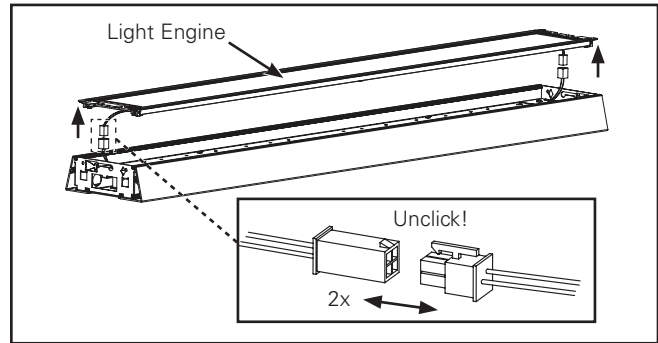
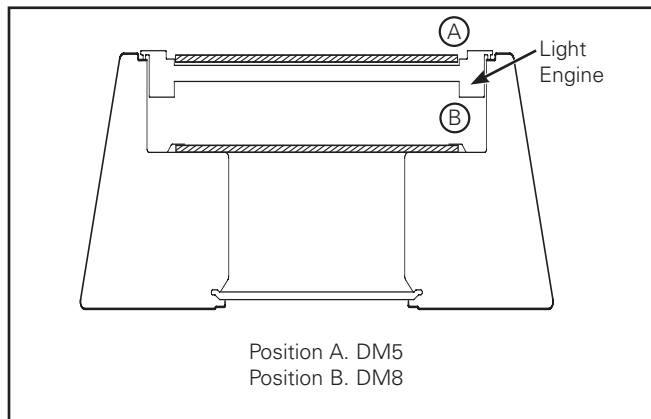

Figure 2.
**Figure 11.**
2. Unclip the connectors on both ends of each LED light engine. (Figure 2.)
- Snap connector together at both ends of each Light Engine. Any excess wire should be tucked back through the hole inside the fixture. (Figure 11.)
3. If DM8 is being installed, remove Light Engine as shown in Figure 2. Secure lens into position B (figure 12). Re-Install Light Engine as shown in (Figure 11).